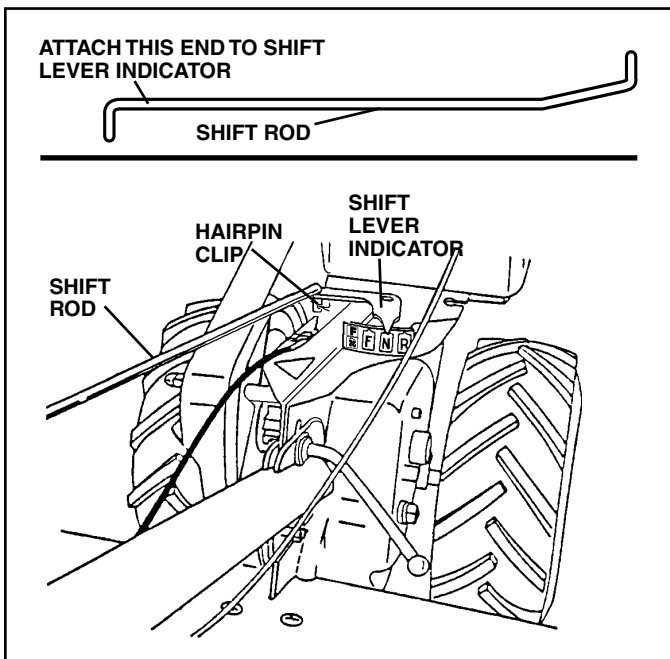

FIG. 7
CONNECT SHIFT ROD (See Fig. 7)
- Make sure shift lever indicator is in "N" (neutral) position (See Fig. 7)